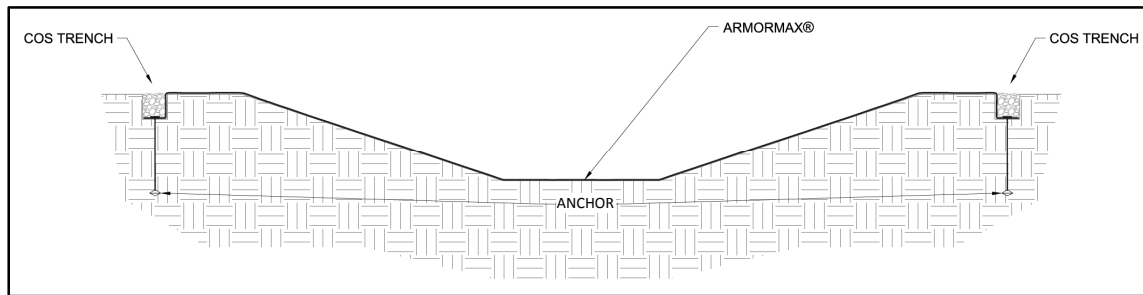

Figure 16: Crest of Slope (COS) Trenches Complete
12. Secure ARMORMAX with pins and anchors in the opposite COS trench. Suggested placement of pins and anchors for the opposite COS trench is along the bottom of the trench with pins on 12 in (300 mm) centers in between anchors on 4 ft (1.2 m) centers (Figure 16).
13. Backfill and compact the opposite COS trench in the location of the first ARMORMAX panel only (Figure 16).